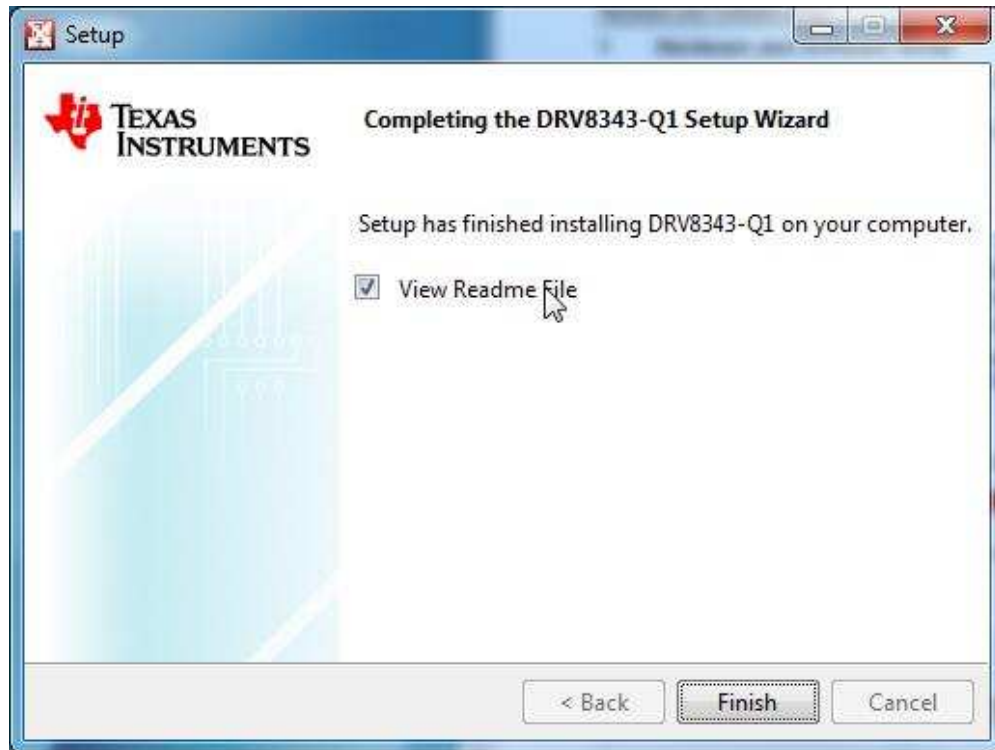

Figure 32. GUI Setup Complete
- Step 7. Click the *Finish* button when the files are successfully installed in the destination folder (see Figure 32).